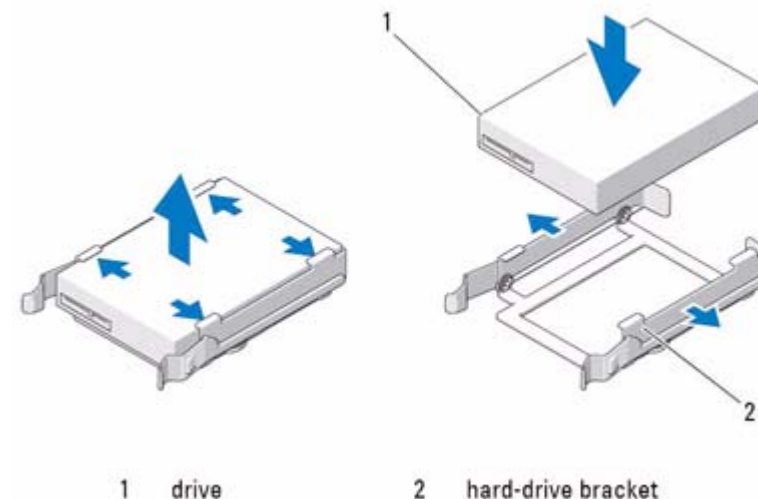

Figure 14:
9. Gently bend the Hard-drive bracket open and align the side holes in the new Hard Drive with the plastic pins on the bracket; release the tension on the bracket so that the Hard Drive is securely fastened as shown in Figure 14 on page 20.